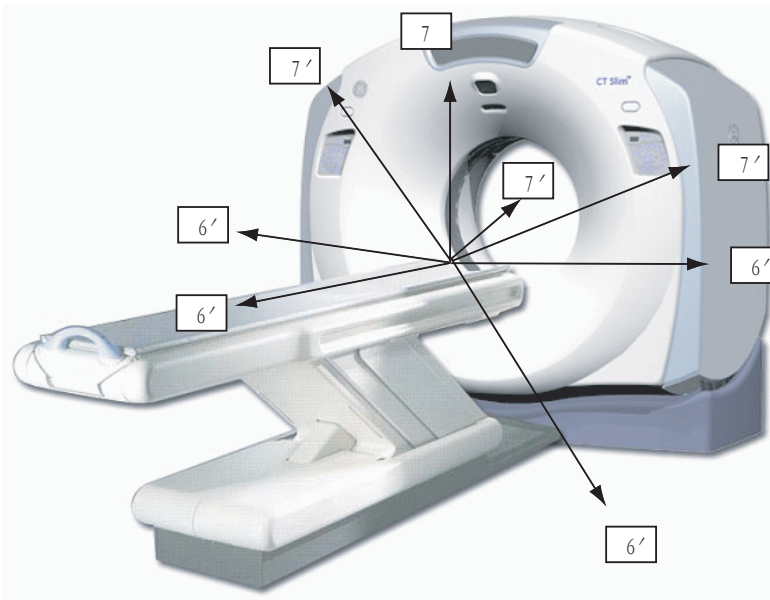

Figure 8-2 Measurement Points
- b.) Test between the system reference ground point (Table base) and the unit reference ground points (i.e. Gantry and Table, see Figure 8-2).
- c.) Test all conductive surfaces and components within patient reach - within 6 feet (1.9 m) of the Table, and within 7 feet (2.1 m) above the surface of the Table, measuring at Table maximum travels. Refer to Figure 8-2 for additional guidance.